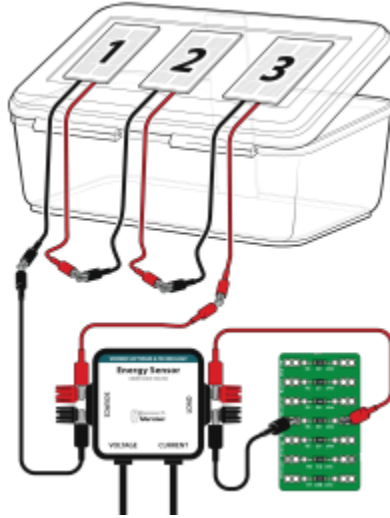

Figure 6
9. Set up a circuit with three Solar Panels connected in series (see Figure 6).